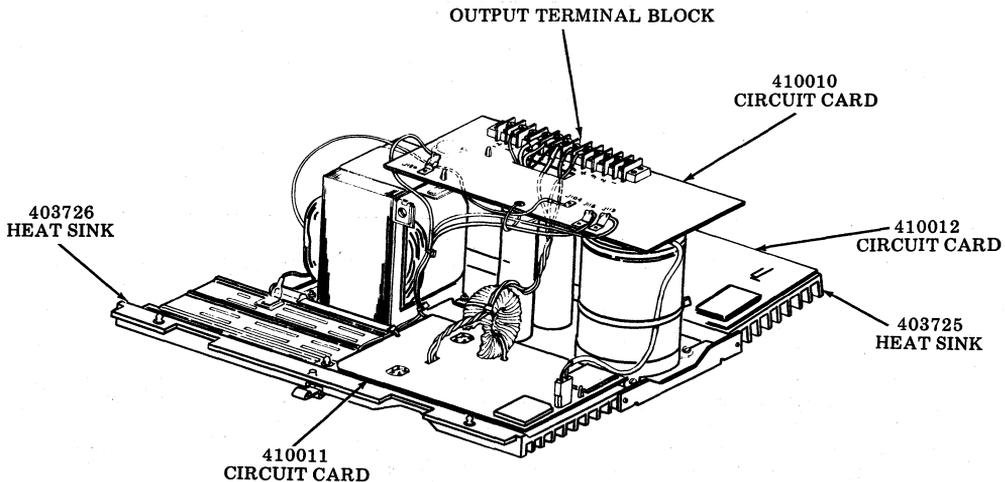

Fig. 15—Layout of 40PSU102 Power Supply for Testing
5.02 Arrange the power supply, with the cover removed (Fig. 15), as shown. Leave power turned off. See Section 582-214-700 for removal of cover and location and removal of mentioned components.
- (a) Unfold both sides of power supply as shown in Fig. 15.